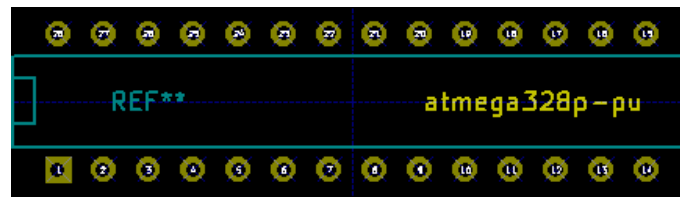

Figure 20: Completed footprint for the ATmega328P-PU microcontroller.
4. Mouse over the string “DIP-28_300” and change it to “atmega328p-pu” so that it’s more recognizable when we do the layout later on. Fig. 20 shows completed